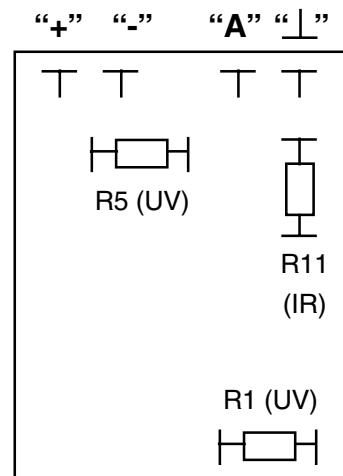

Fig. 11-2: PCB "VVS"
All measuring points are made to earth (\perp of detectors PCB "VVS", Fig. 11-2). (Remove covering hood of detector).
(Fig. 11-2)
11.1.4 Unamplified Measuring Signal at DetectorTest point: "A" and " " of detector PCB "VVS" (Fig. 11-2)